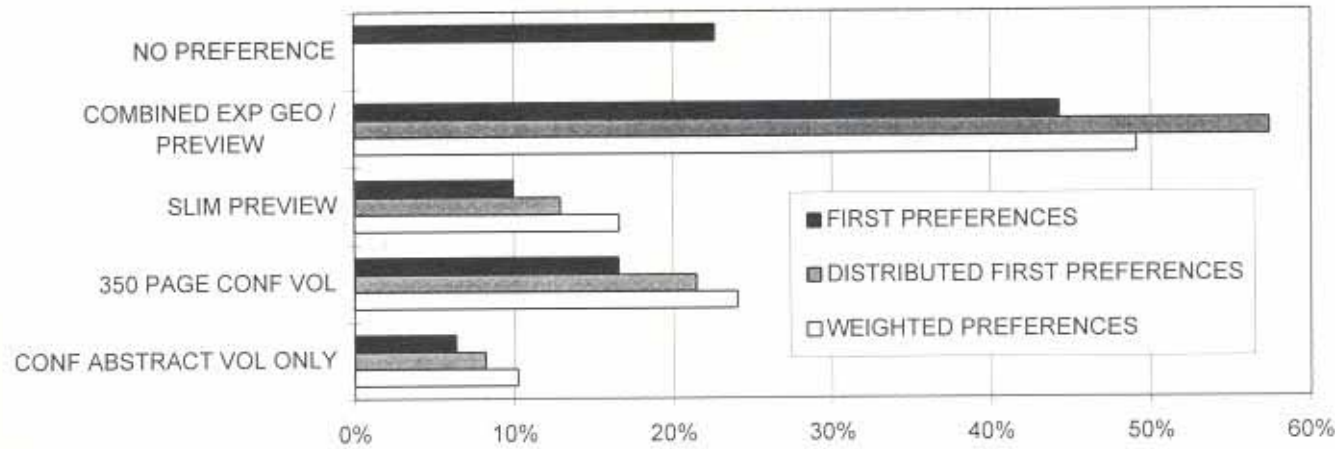

Figure 3. Voting patterns for ASEG Publications
**Publication Options:** The most contentious matter in the survey was the future of the ASEG publications: Exploration Geophysics, Preview and the Conference Volume. Figure 3 shows the overall results. Some 22% were unconcerned and indicated no preference. The return to a Conference Abstracts only volume was poorly supported (7-11%) as was a slim Preview volume (10-17%). The combined Exploration Geophysics/Preview option was clearly the most supported option (40% first preference, 58% excluding no preference votes and 48% weighting for priorities), with the limited size Conference Volume having reasonable support (16%, 22% and 24% respectively).